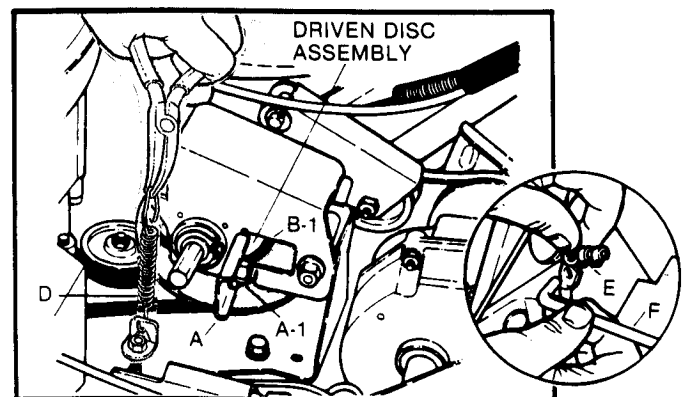

FIG. 14 -DRIVEN DISC ASSEMBLY
- ☐ Grease on drive disc (C)-causing slippage.
- ☐ Broken or disconnected DRIVE SPRING (D) (also refer to FIG. 14).
- ☐ Driven disc rubber ring (B-1) worn - not contacting drive disc (C) properly.
- ☐ Driven disc (B) out of adjustment
**DRIVEN DISC REPLACEMENT:** If the driven disc rubber ring (B-1) is found to be badly chunked or worn down to within  $1/16"$  of the metal rim of the driven disc hub (B), it must be replaced. Remove the clip (E) at end of speed control rod, and then turn the transfer rod (F) to a upright (vertical) position and detach from the connector (A) (FIG. 14 & 15). Unhook drive spring (D) (use needle nose pliers) and slide the driven disc assembly off hex-shaft.